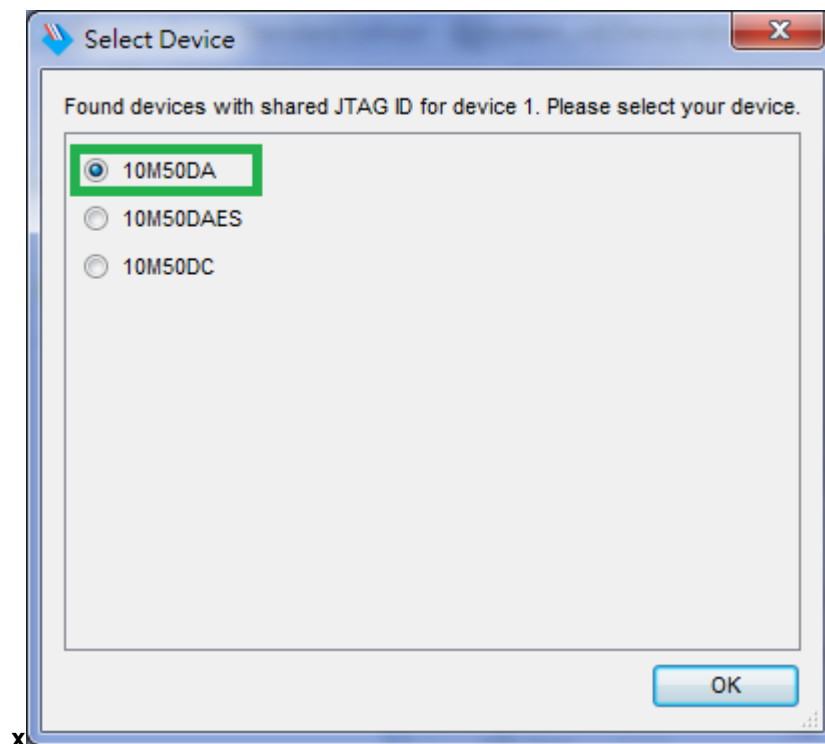

Figure 3-5 Select 10M50DA device
5. Select detected device associated with the board, as circled in Figure 3-5.